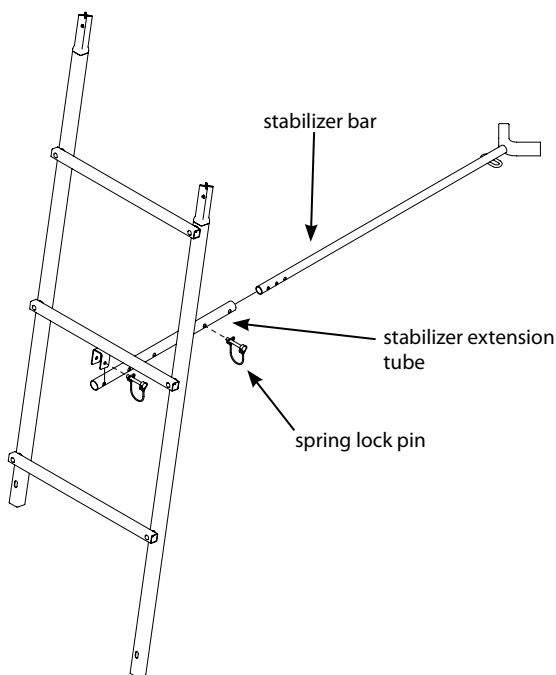

Figure 7
9. a. Attach the stabilizer bar extension tube (410075) to the second ladder section mounting bracket using (1) provided spring lock pin. **SEE FIGURE 7.**
b. Slide the stabilizer bar (410073) into the extension tube and attach the two pieces together using (1) provided spring lock pin. Spring lock pin must go through both the extension tube and stabilizer bar at appropriate hole to achieve desired distance from tree. Adjustment in length may be needed when ladder is uprighted later in instructions. **SEE FIGURE 7.**